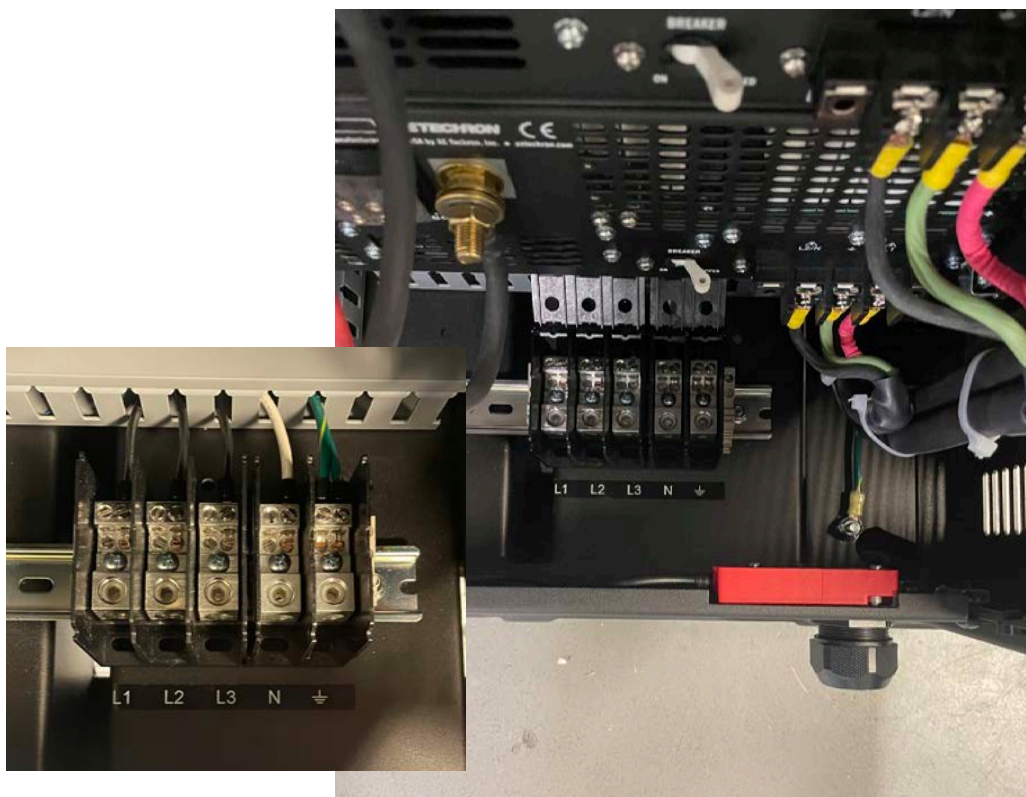

Figure 2.12 – Location of AC Mains Barrier Strip with labeling detail (inset)
3. Open the access door on the back of the amplifier and locate the fuse and AC inlet panel near the bottom of the amplifier. Locate the power block, which is mounted behind the fuse and AC inlet panel (see **Figure 2.12**).